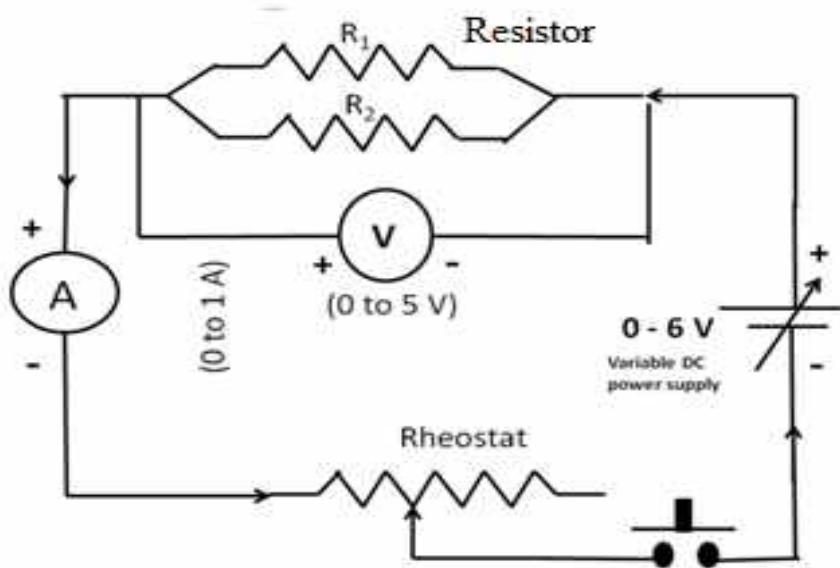

Fig. 02
**Table 3: For wire 1 in series with wire 2 ( Fig. 02)**